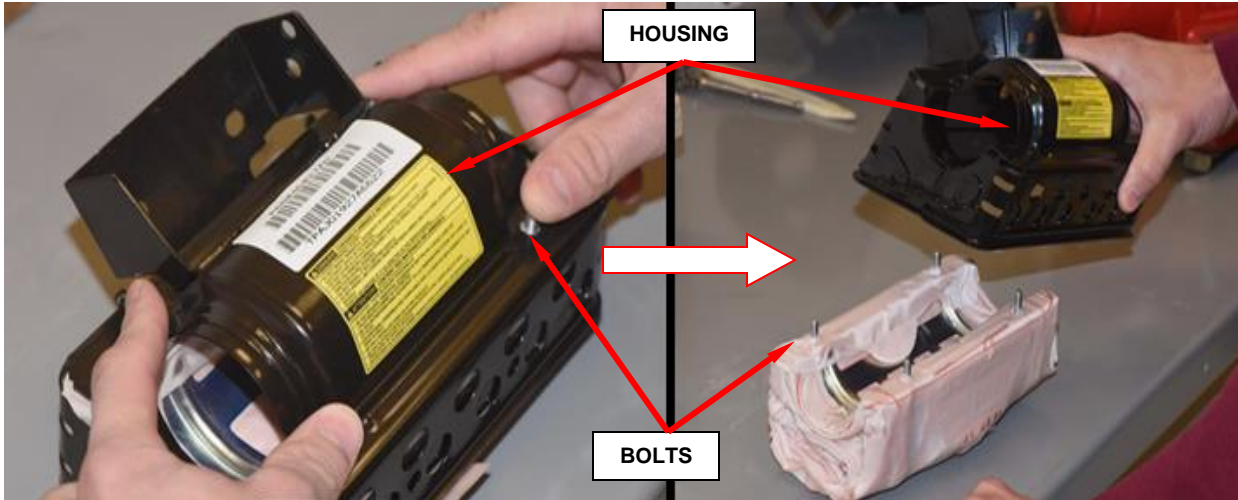

Figure 52 - Remove Airbag Cushion from Housing
- e. Remove airbag cushion from housing by applying pressure to the bolts, set cushion aside (Figure 52).